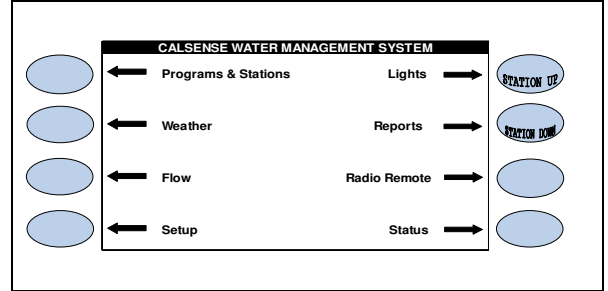

Figure 7
11.  Press the **MAIN MENU** key to return to the **MAIN MENU** screen (Figure 7).
12.  Press the **PROGRAMS & STATIONS** Menu key (Figure 7).